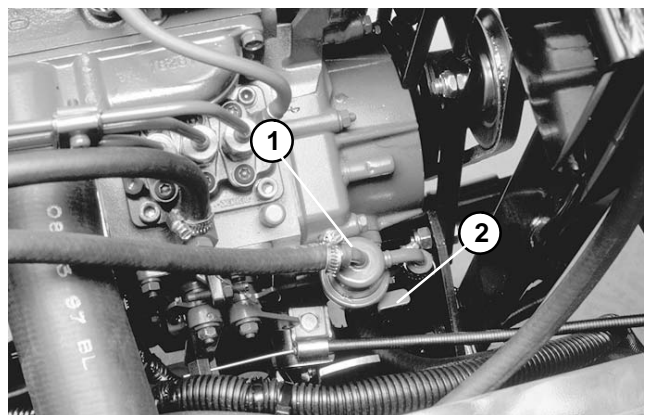

Figure 9
4. Pump lever on the fuel pump (Fig. 9) until a solid stream of fuel flows out around the bleed screw on the fuel filter/water separator. Tighten air bleed screw.
6. Pump lever on fuel pump (Fig. 9) until a solid stream of fuel flows out around screw on the fuel injection pump. Tighten air bleed screw.